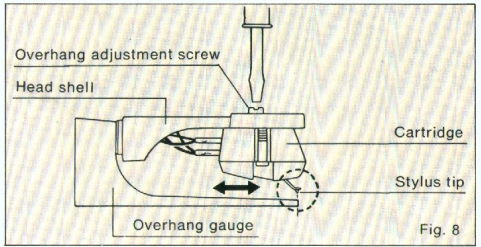

Fig. 8
3. Insert the head shell into the gauge. (See Fig. 8)